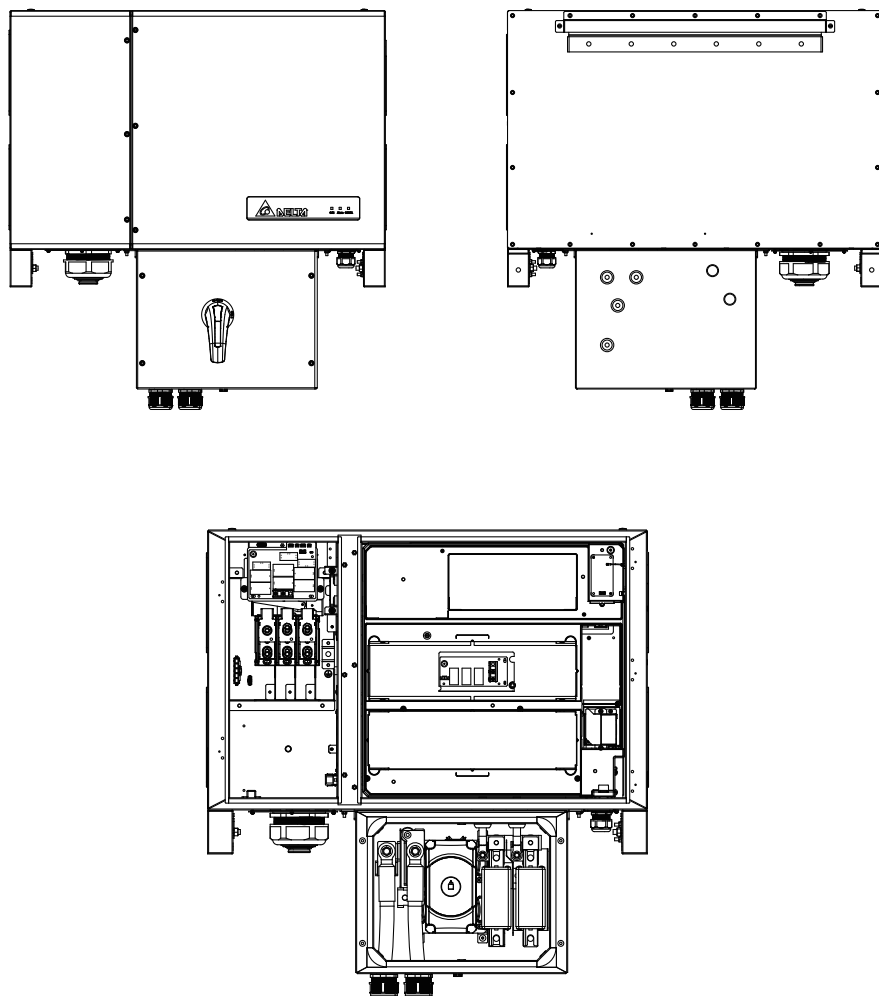
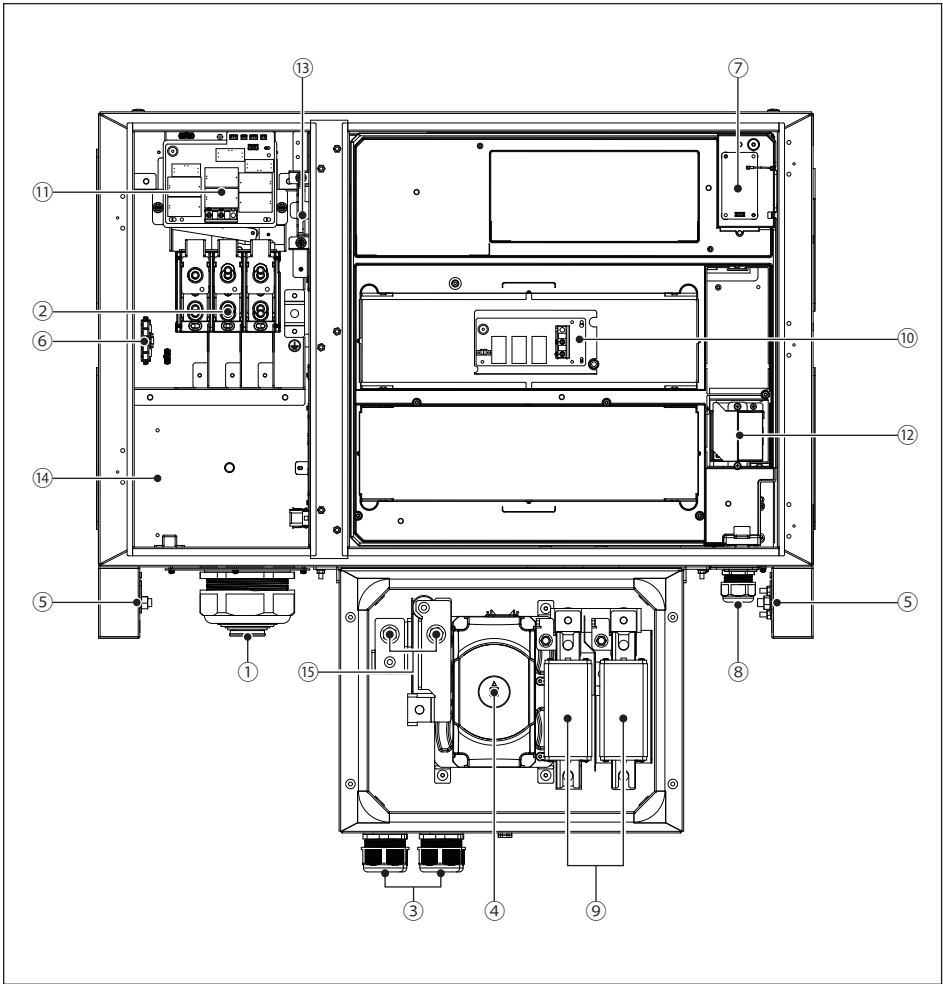

Figure 2-5: External/ internal view
Figure 2-6: Layout
In the following pages, **Figures 2-5** illustrate the general layout of and wiring area. **Figure 2-6** and **Table 2-4** provides detailed description of each wiring area option. The wiring area includes terminals for connection of the output (AC) wiring, AC surge protection devices (SPD).